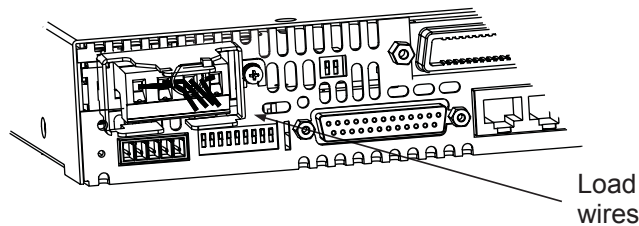

Fig.3-9: Protective shield and wires assembly
6. Tighten the wires to one of the shield sides using ty-wrap or equivalent. Refer to Fig.3-9. Ensure that the wires length inside the shield is long enough to provide strain relief.